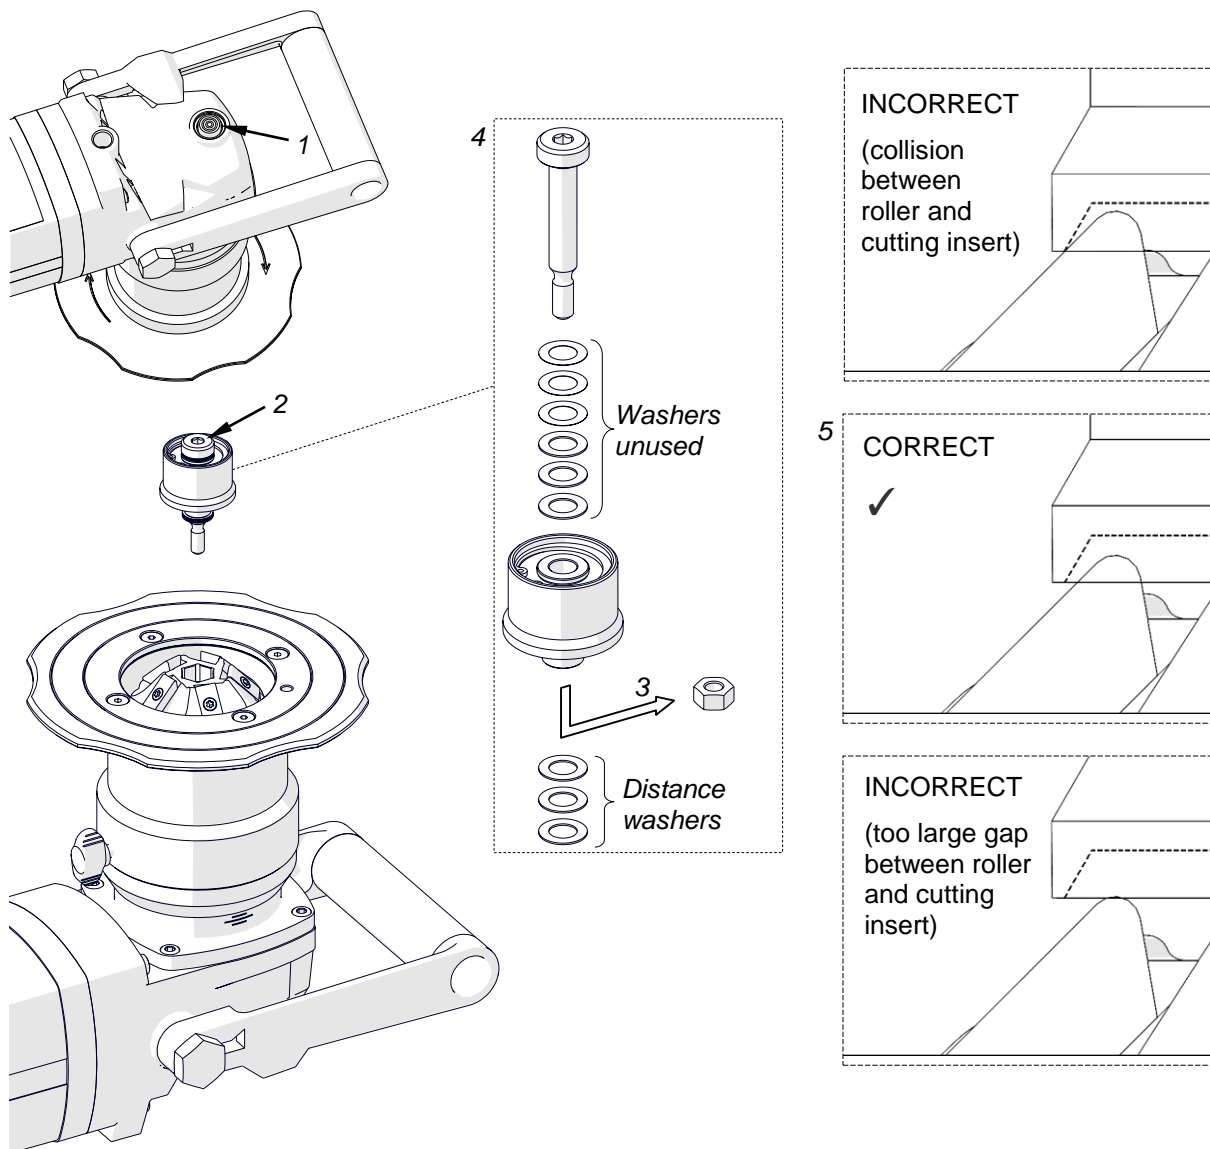

Fig. 8. Replacing the roller
Unplug the machine from the power source, and place the machine upside down. Next, press the spindle lock button (1, Fig. 8), and then use the 5 mm hex wrench to unscrew the roller (2).